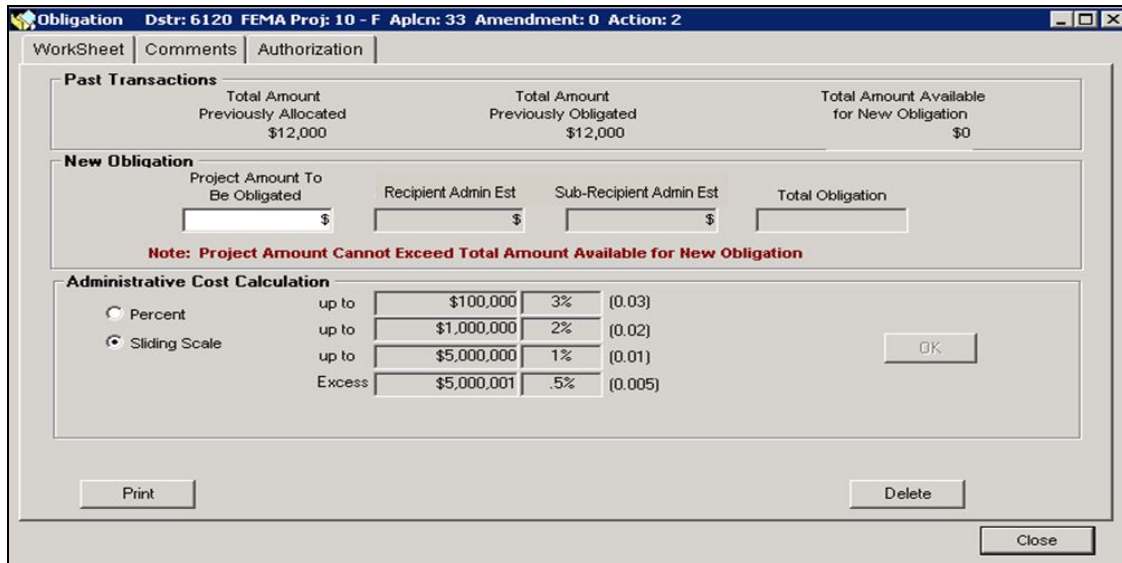

Figure 10-69: Worksheet tab showing amounts previously Allocated and Obligated and selection of the Sliding Scale Radio Button to ensure proper calculation
- The **Worksheet** tab is displayed by default (Figure 10-69).